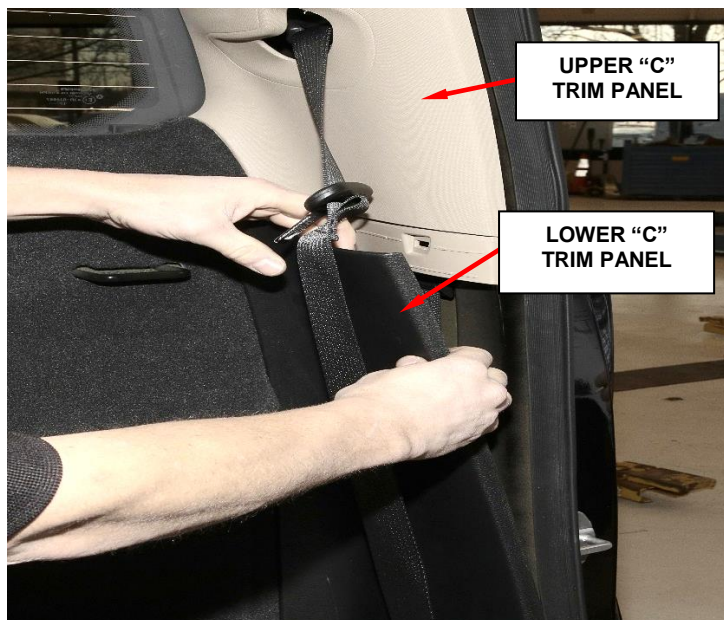

Figure 5 – “C” Pillar Panel
10. Separate the retaining clips from the pillar and remove the lower C-pillar trim panels from both sides (Figure 5).
5. Position the lower C-trim in place and seat the retaining clips fully (Figure 5).
6. Separate the retaining clips from the pillar and remove the lower C-pillar trim panels from both sides (Figure 5).
4. Position the lower C-trim in place and seat the retaining clips fully (Figure 5).